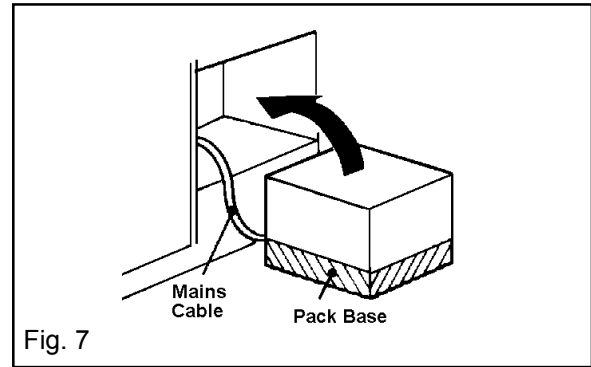

Fig. 7
- Position the appliance in front of the cabinet. See Fig. 7.